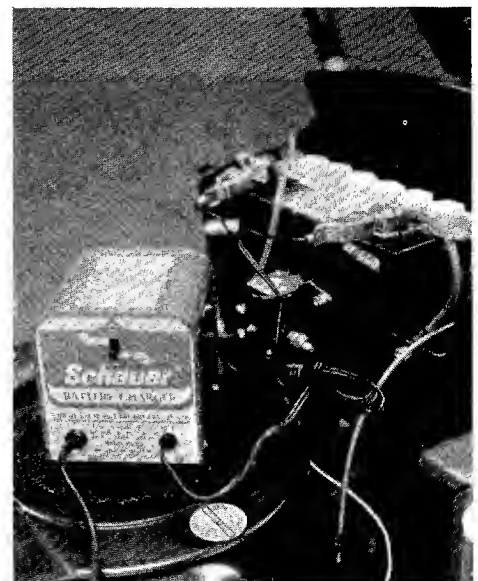

Figure 5
- 3 Connect the battery clips to the battery terminals. The clip with the (+) mark connects to the positive terminal of the battery. The clip with no markings connects to the negative terminal of the battery. (Red clips are + and black clips are -). Be sure that the battery terminals are clean where the charger clips are to be connected. Move the clips back and forth several times to be sure a tight connection is made. (See figure 5.)